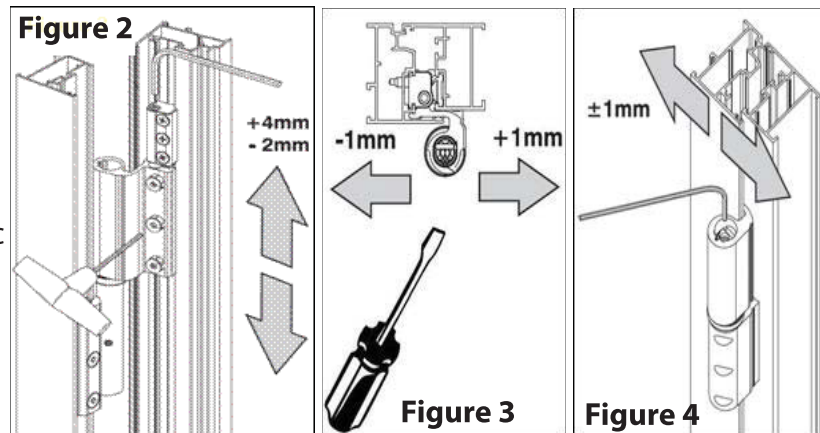

Figure 5
- Install or replace the black plastic hinge caps when hinge adjustment is complete, as shown in **Figure 5.**